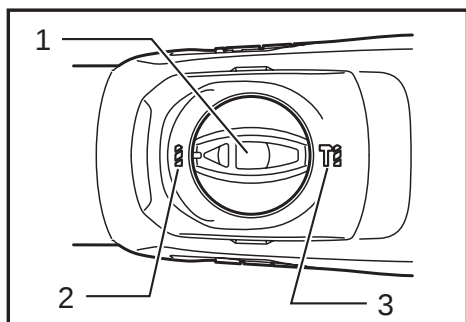

Fig.3
- **Fig.3:** 1. Action mode changing knob 2. Rotation only 3. Rotation with hammering